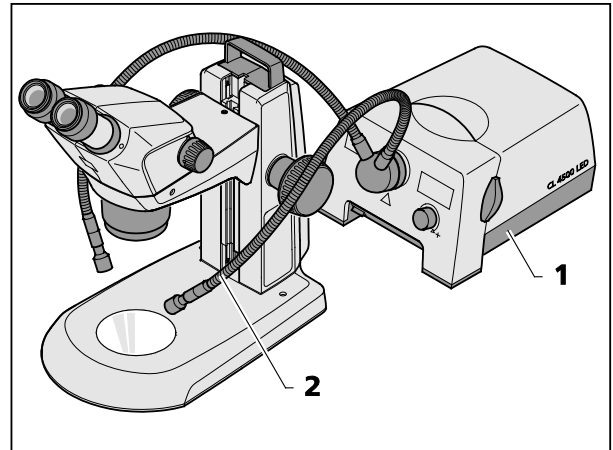

Fig. 15 Mounting external fiber-optic illumination
- Switch on external fiber-optic illumination (Fig. 15/1), adjust illumination intensity and set illumination by bending the two goose necks (Fig. 15/2) so that the specimen is optimally lit.